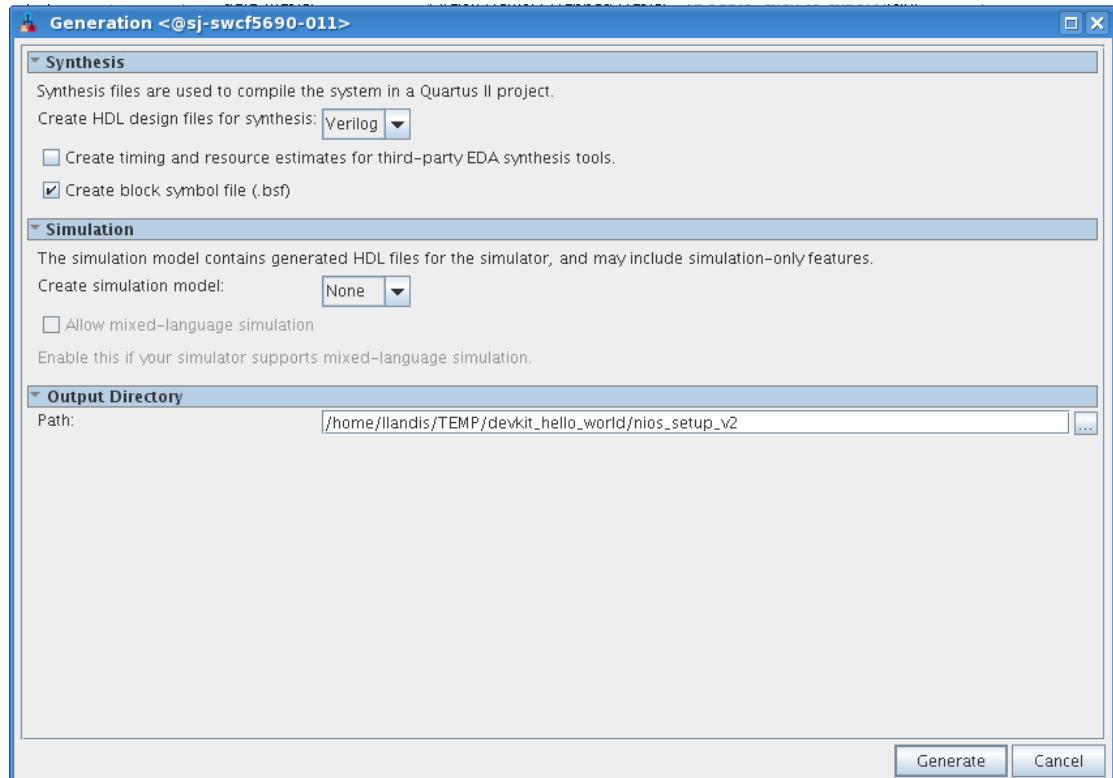

Figure 26: Screen that Appears after "Generate HDL"
22. Click on the button '**Generate HDL**'. A screen like Figure 26 should appear.